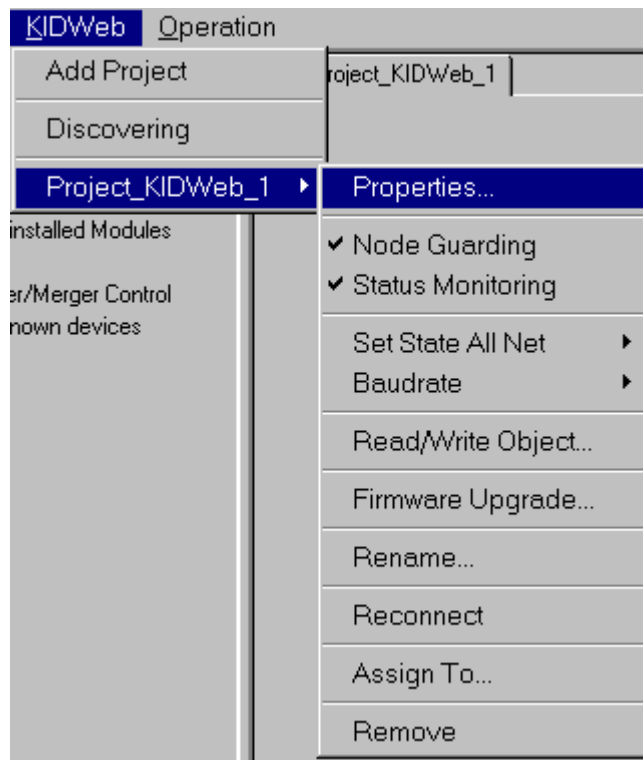

Fig. 7.18
- Approach **Project_KIDWeb_1** to open the drop-down menu box - Fig. 7.18.